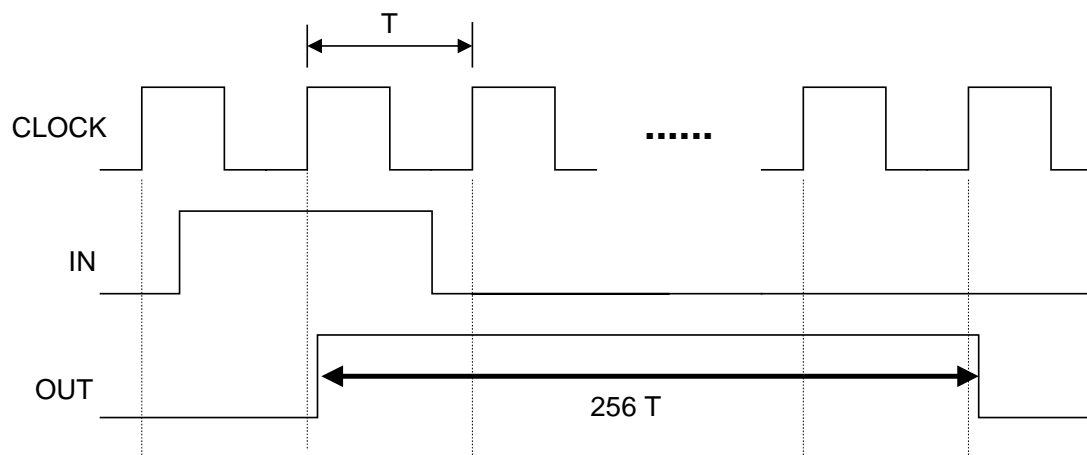

Figure 1
- Design a circuit to produce an output pulse on OUT lasting 256 clock cycles when a positive edge is detected on the asynchronous input IN as shown in *Figure 1*. IN is guaranteed not to produce another positive edge when OUT is high. You may assume that the signal IN does not change near to a CLOCK rising edge.